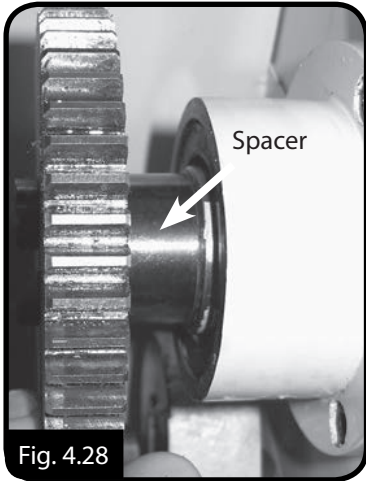
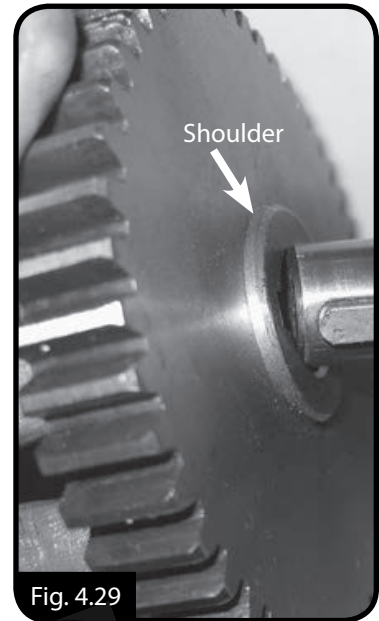

Fig. 4.28
Fig. 4.29
10. If required slide the spacer onto the spindle, (Fig. 4.28) then slide the gear on the shaft. If the spacer is not required then place the gear on the shaft so that the shoulder is then placed against the bearing (Fig. 4.29).